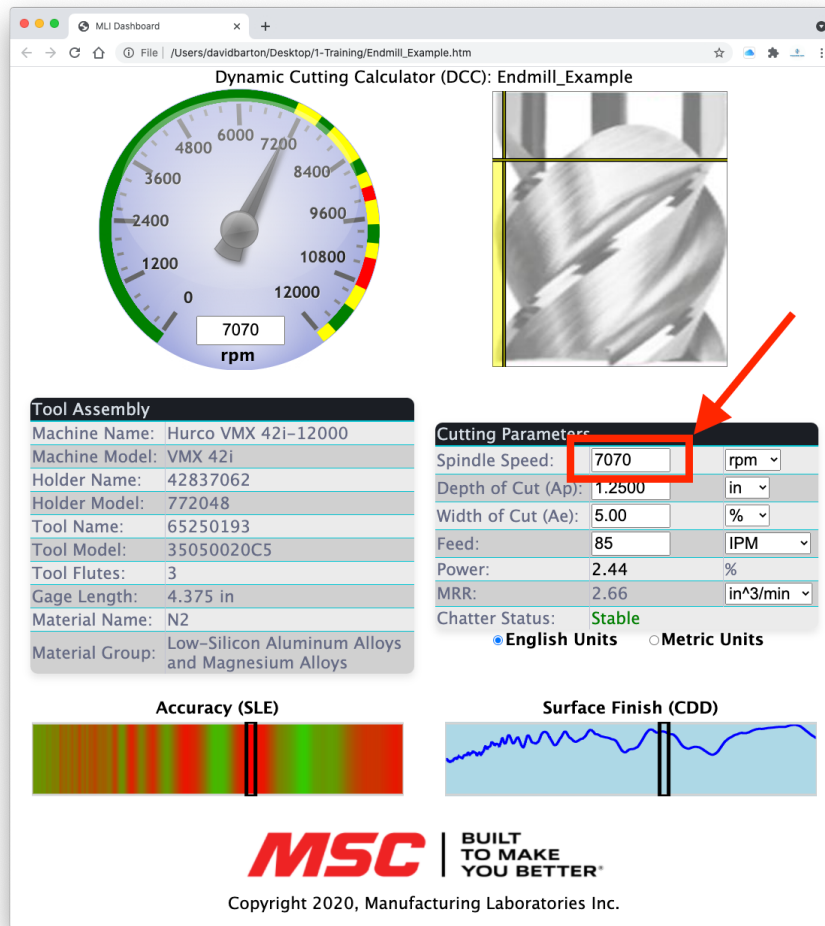

Figure 1a - Determine the Process Damping SS transition,  $PD_{SS}$
As shown in Figure 1a, set the Dashboard to the tool's maximum depth (Ap) of cut adjust the width (Ae) of cut so that there are clear stable (green) and unstable (red) regions of speed. If only green and yellow (conditionally stable) zones show, keep reducing the width of cut until red zones appear. Dial the Spindle Speed (SS) to the lowest stable zone, and determine the SS where the Vibration Indicator bar transitions from Stable (green) to Conditionally Stable (yellow) or Chatter (red), 7070rpm in this example.